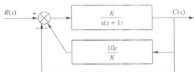

Figure 2: A feedback control system
- i. $15u(t)$ (3)
- ii. $15tu(t)$ (3)
- iii. $15t^2u(t)$ (4)
- b) Figure 2 shows a feedback control system. Solve for the value of gain, K that will yield a 0.025 error in steady-state for an input $150tu(t)$ for the following system.